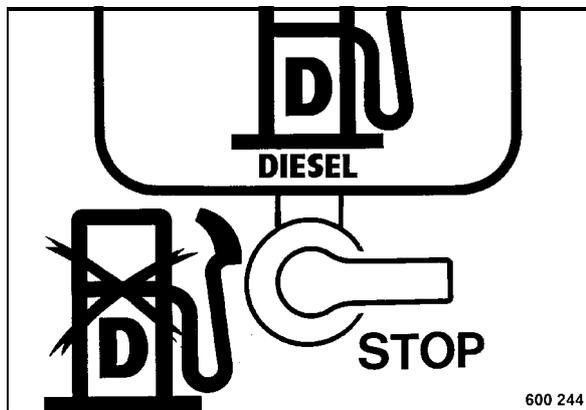

Fig. 28
- Set the fuel valve (Fig. 28) to STOP (closed).